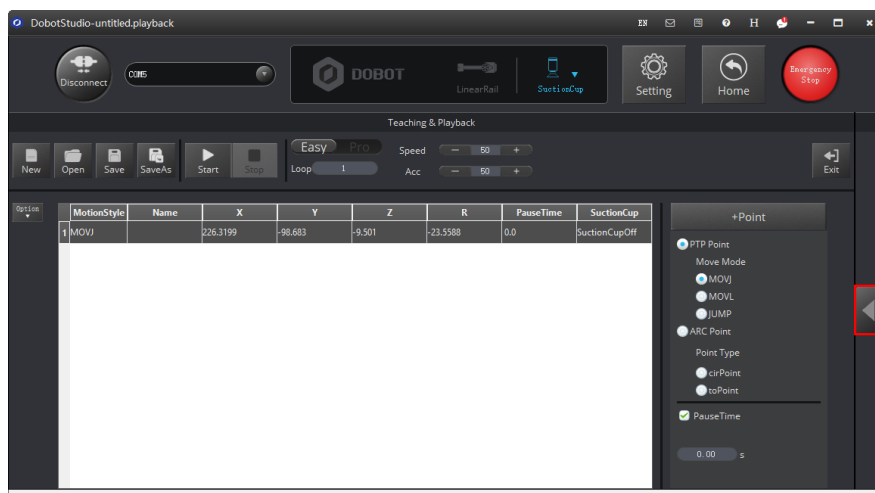

Figure 5.26 Display the Operation Panel
3. Click  to display the **Operation Panel**, as shown in Figure 5.26.